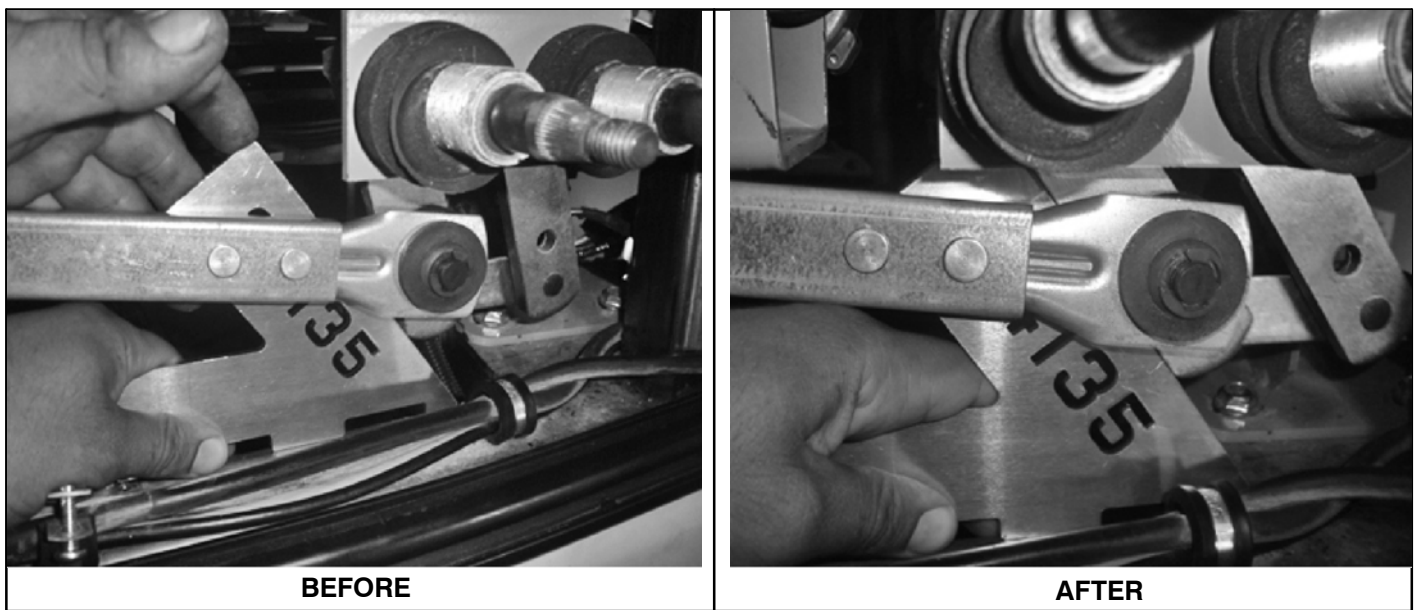

Figure 13. Wiper Arms Before and After Linkage Adjustment
38. Positioned in front of the coach, locate the main wiper linkages (refer to Figure 13).
39. Verify that the arm swing angle from the wiper arm pivot is 35 degrees on both sides vertical by utilizing a gauge. With gauge tool 24135 ensure the angle measured from the frame member is 55 (+/- 1.0) degrees (refer to Figure 13). Repeat on opposite side of coach.
If the angle measured from the frame member is not 55 (+/- 1.0) degrees on both the curbside and roadside wiper arms as shown in Figure 13, proceed to Step 40.
If the angle measured from the frame member is 55 (+/- 1.0) degrees on both the curbside and roadside wiper arms as shown in Figure 13, proceed to Step 41.